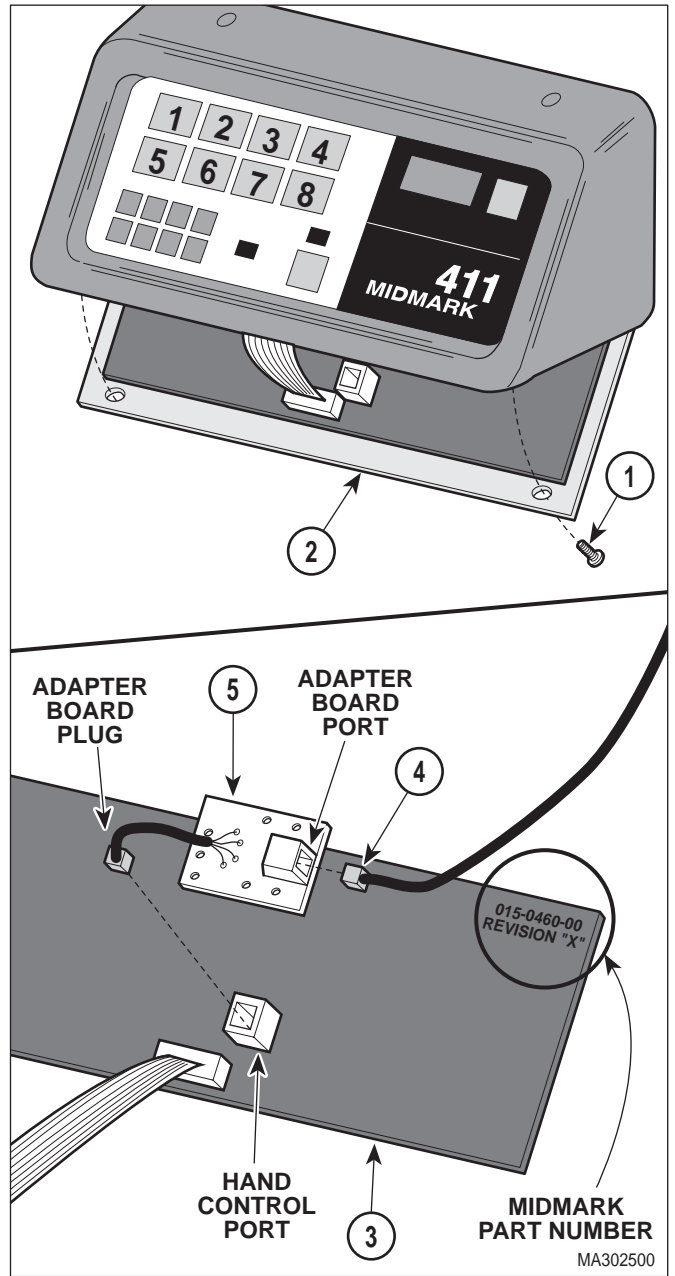

Figure 4-4. Adapter Board Installation
- (6) Remove two screws (1, Figure 4-4) and lower the console cover (2) down.
- (7) Check Midmark part number on PC logic board (3). If part number is *015-0460-00 Revision A* or *015-0460-00 Revision B*, install adapter as described in steps 8 thru 10. If part number is *015-0460-00 Revision C* or later, do not install adapter; go to step 11.